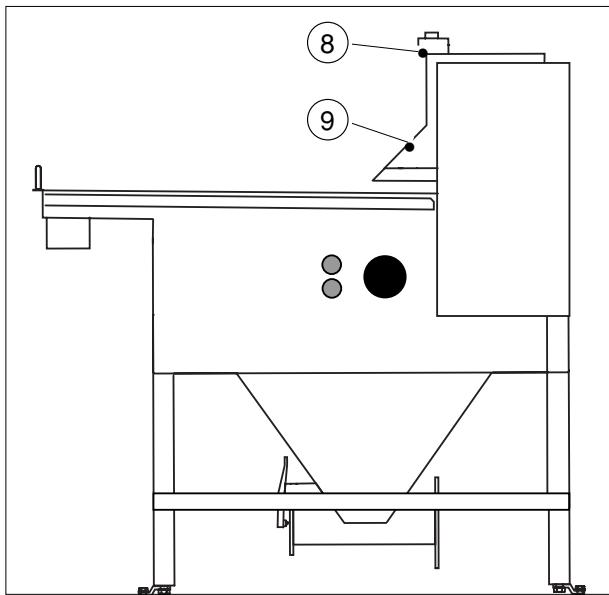

fig.14.1 Safety stop button, stop knob, start knob and protection cover
- Safety switch 8 is operated when opening protection cover 9. The inspection/peeling table immediately stops and all electrical drives to the peeling rolls are switched off. See figure 14.1.